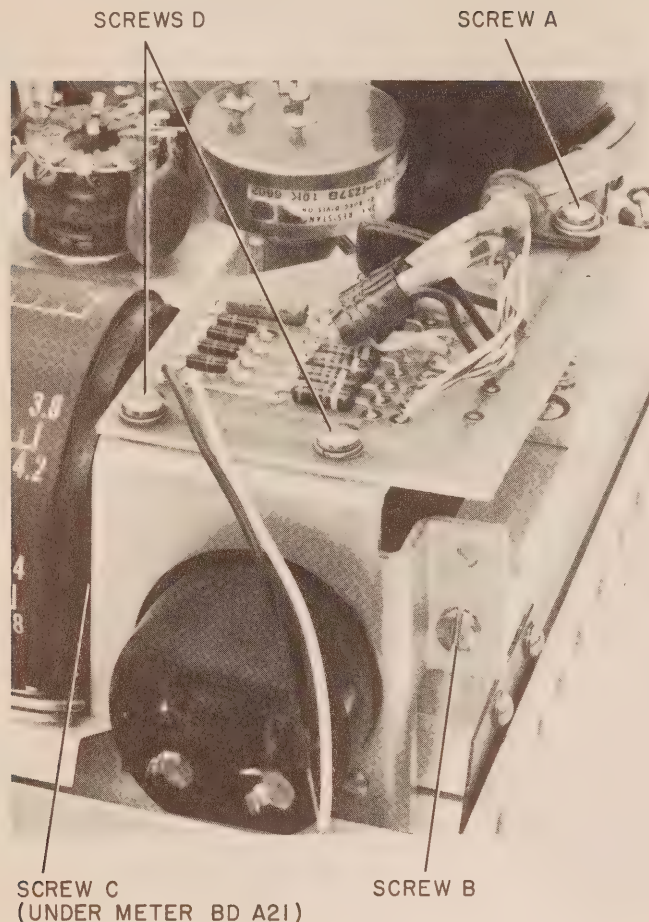

Figure 5-34. Portion of Rear of Front Panel, as Viewed from Top of Panel
5-232. **HARDWARE.** Screws removed or loosened in the following procedure are identified in Figure 5-34 or Figure 6-8, and described as follows:
a. Screw A, 6-32 x 1-1/4 RH w/split washer, flat washer (Figure 5-34).
5-233. **PROCEDURE.** The frequency scale drum is held in place by a large spring at one end (item 18, Figure 6-8) and a long screw at the other. This long screw (Screw C, Figure 5-34) is accessible when Meter Board Assembly A21 is removed from the drum support block.
a. Remove Screws A and B (see Figure 5-34), and swing Meter Board Assembly A21 and Meter M1 out; move them as one assembly, do not touch Screws D.
b. To expose the right-end bearing and lock nut, remove Screws A and B (Figure 5-34) which hold Meter Board Assembly A21 in place; if there are spacer washers, be sure to remove them from the instrument with the screws. Lift the A21 board out of the way.